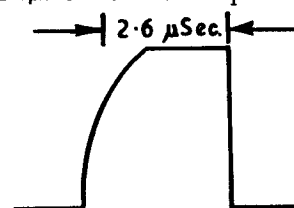

Figure 6-9c
1. Set the oscilloscope controls to observe the wave-shape shown in Figure 6-9c.